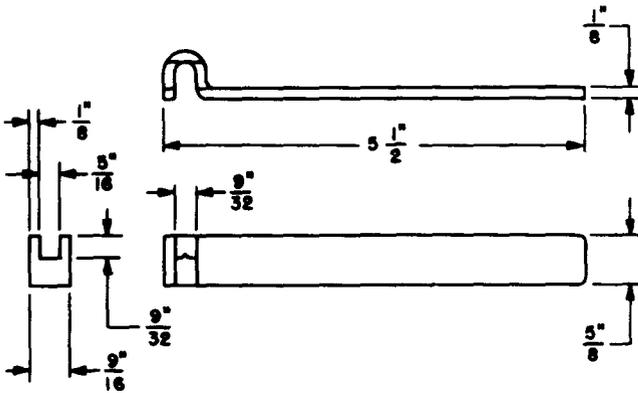

Fig. 3—329 Guide Holder Tool
2.04 329: The 329 guide holder tool (Fig. 3) is used to hold the No. 1A guide while it is being adjusted with the 328 tool.